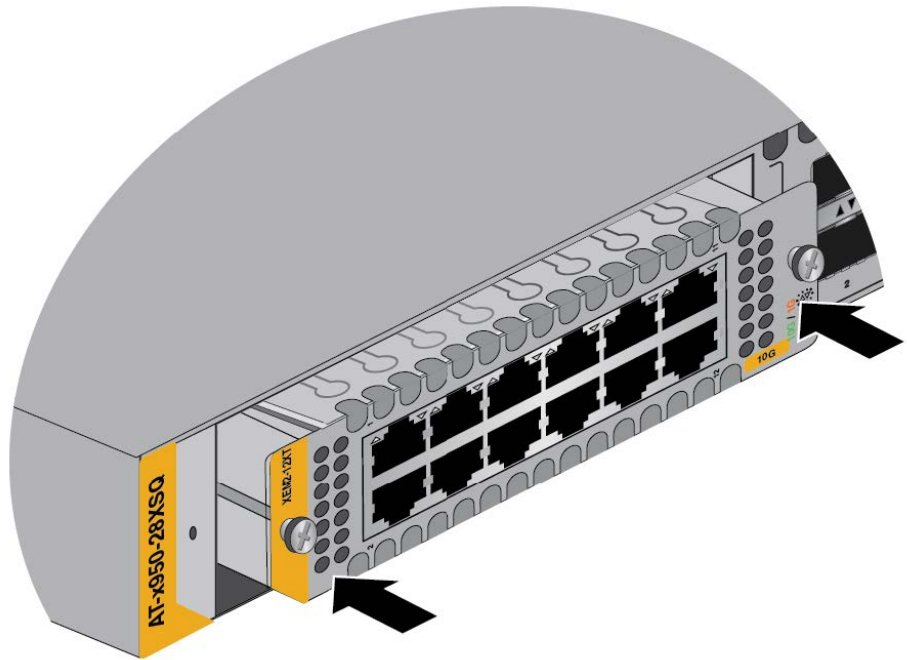

Figure 79. Seating the Ethernet Line Card in the Expansion Slot
4. When the line card makes contact with the internal connector in the switch, gently press on the sides of its faceplate to seat it on the connector. Refer to Figure 79.